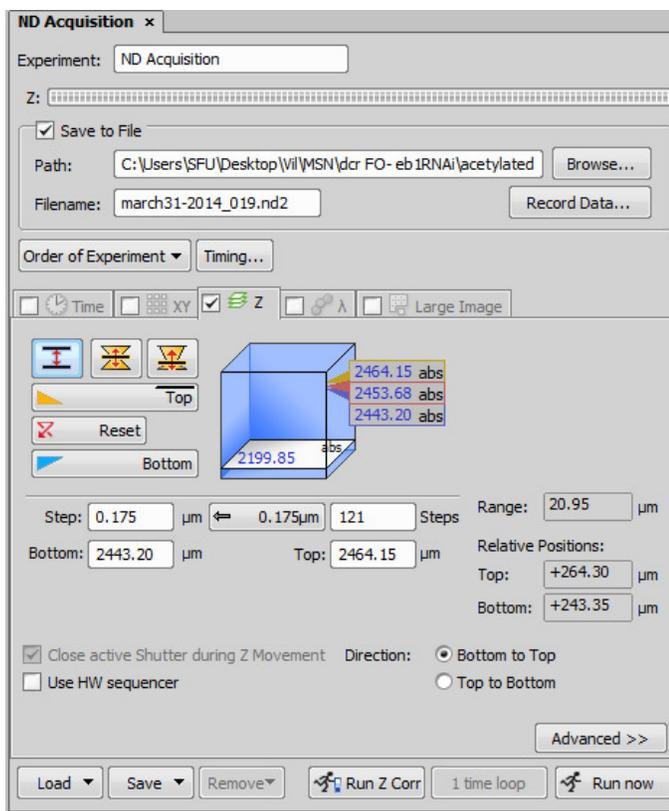

Figure 26. The ND Acquisition dialog box for running different experiments.
5.8.7 ND Experiments (Figure 26)